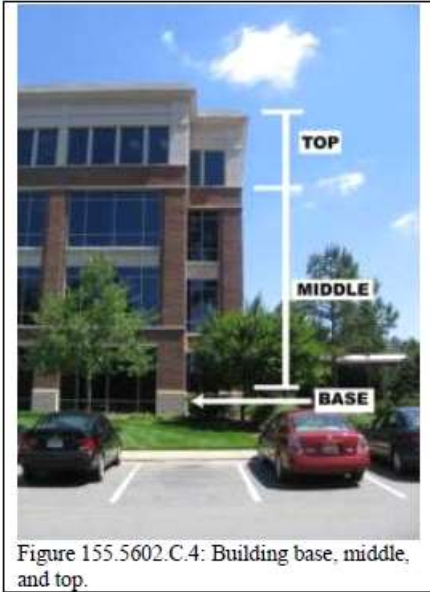

Figure 155.5602.C.4: Building base, middle, and top
b. Spaces between buildings on outparcels shall be configured with small scale pedestrian amenities such as plazas, seating areas, pedestrian connections, and gathering spaces. (See Figure 155.5602.C.3 <https://codelibrary.amlegal.com/codes/pompanobeach/latest/pompanofl_zone/0-0-0-39355>; Outparcel development.)